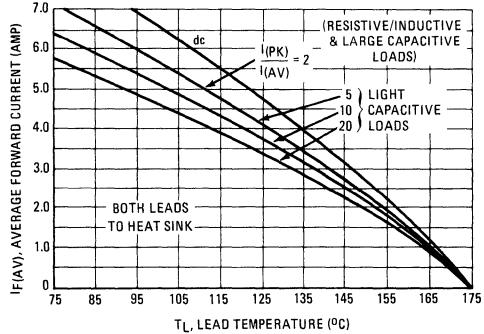

FIGURE 10 – PRINTED CIRCUIT BOARD MOUNTING,
Where:  $T_A$  = Maximum Allowable Ambient Temperature neglecting reverse power dissipation (from Figures 10 or 11)
Step 6: Find  $T_A = T_1$  from Figure 10. Read  $T_1 = 94^\circ\text{C}$